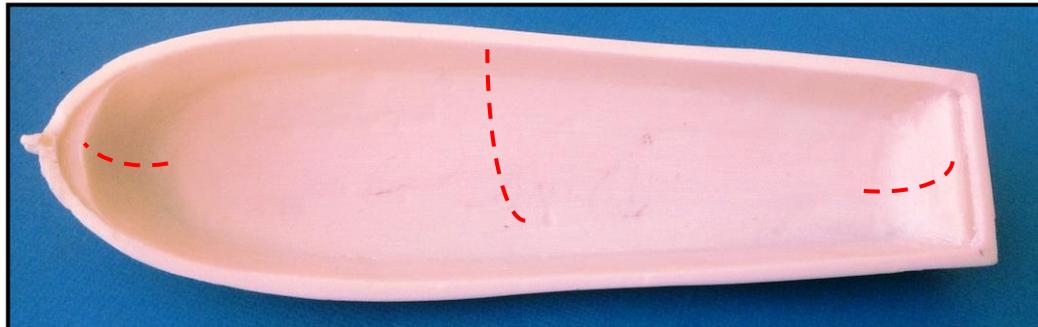

Figure 10: Possible Internal Contouring (incomplete)
- The flat inside base was changed into a *concave surface roughly matching the outside*. A Dremel cutting bit with a rounded shape made this task simple and approx. 5 mm. was cut out from the bottom. The guide to cutting down to a suitable depth involved holding the boat up to a strong light and observing a uniform translucent colour (to begin with, thick bottom was totally opaque to light). The concave inner surface is evident in Fig. 10.